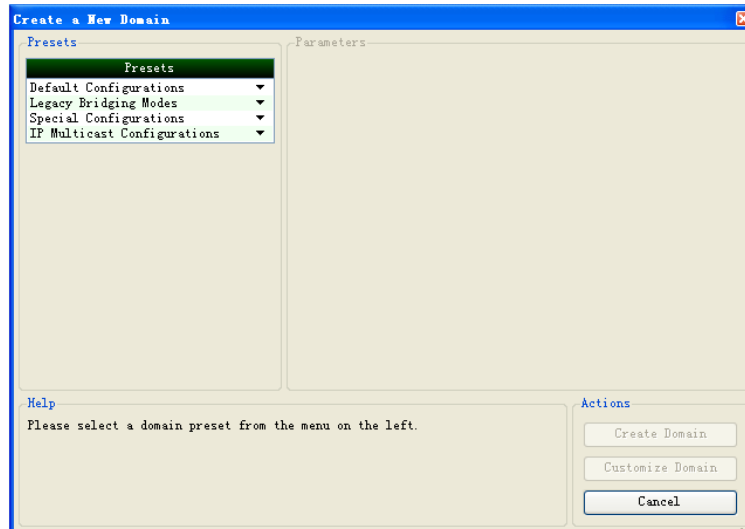

Figure 7-1 Add Domains
- 1) Click Add Domain and display the window shown in the Figure 7-1;